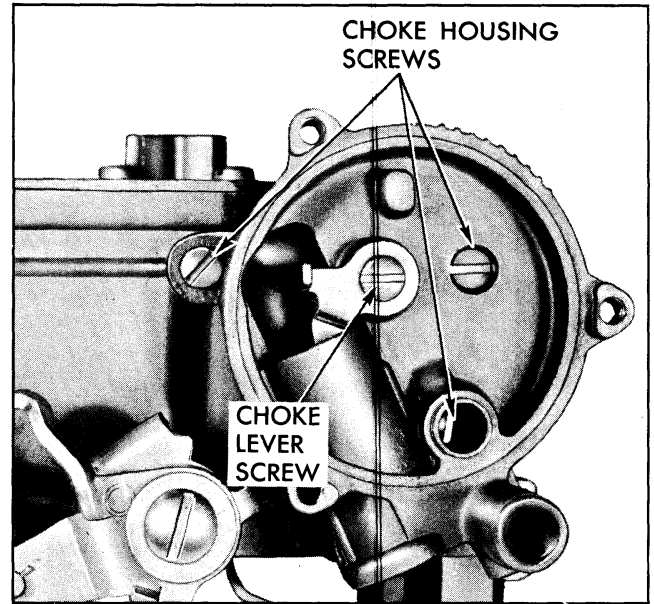

Fig. 6B-75 Location of Choke Housing Screws
6. Remove pump jet cluster and gasket. (Fig. 6B-76).